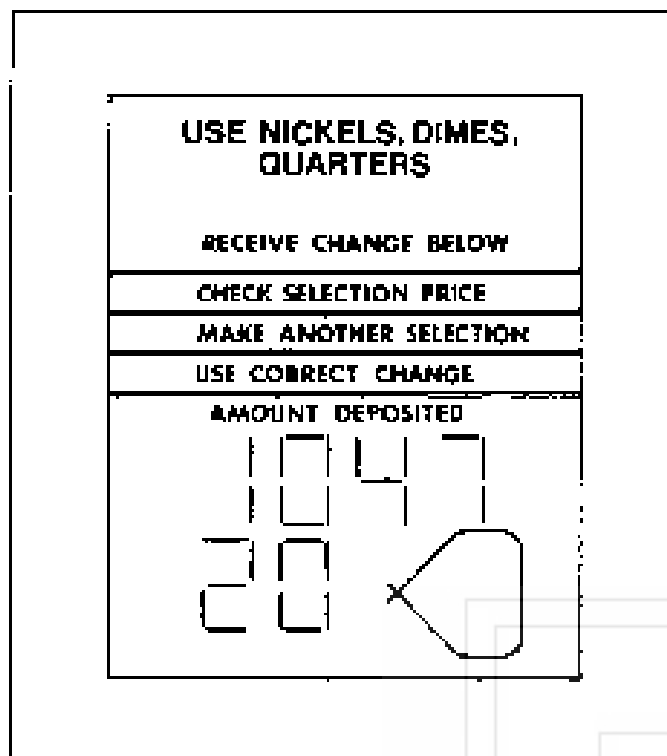

Figure 19 SHOWING A SERIAL NUMBER OF 104720
- B. Change or enter a new whole number by pressing the panel numerals. Numeral #10 equals 0 (Figure 19).